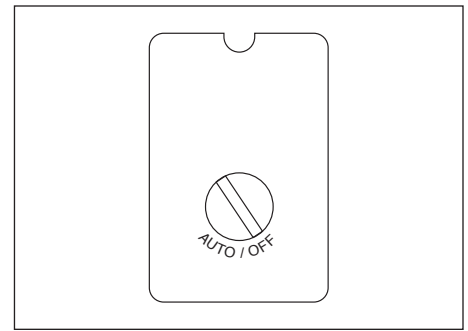

Figure 6
1. Turn switch to "OFF" position and plug in power cord (See Figure 6).
2. Turn switch to "AUTO" position to run unit (See Figure 6).